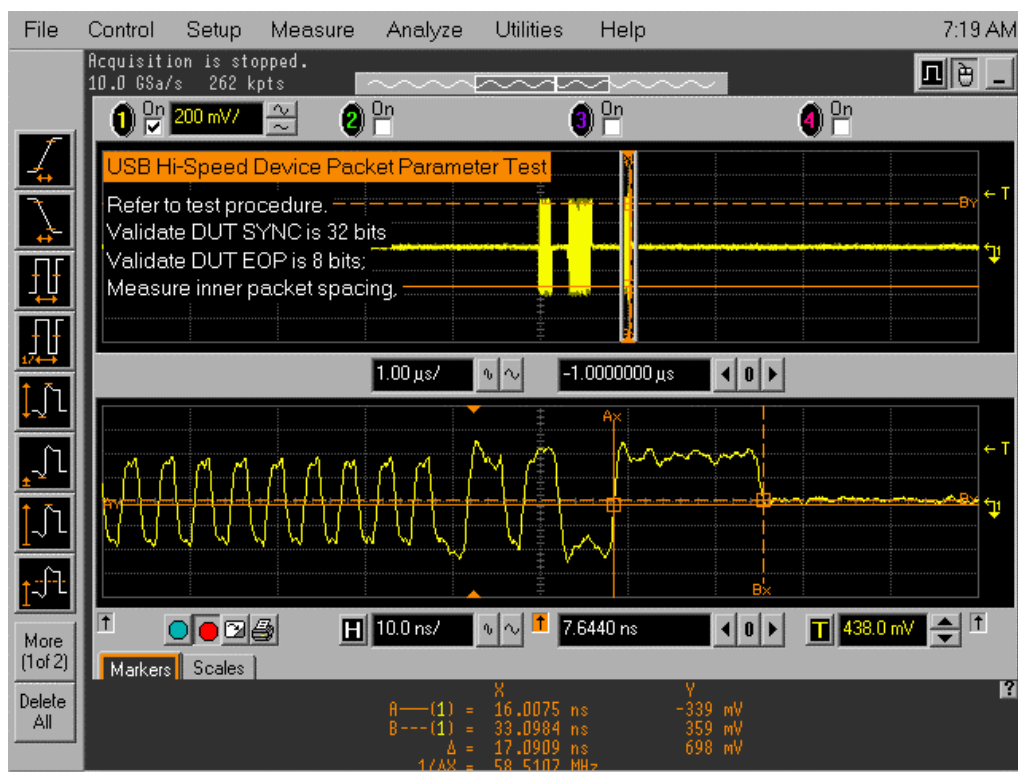

Figure 14. Host Packet EOP with Positive Pulse
10. Measure the EOP length (number of bits) of the second packet on the oscilloscope and verify that it is 8 bits per EL_25 (Figure 14)